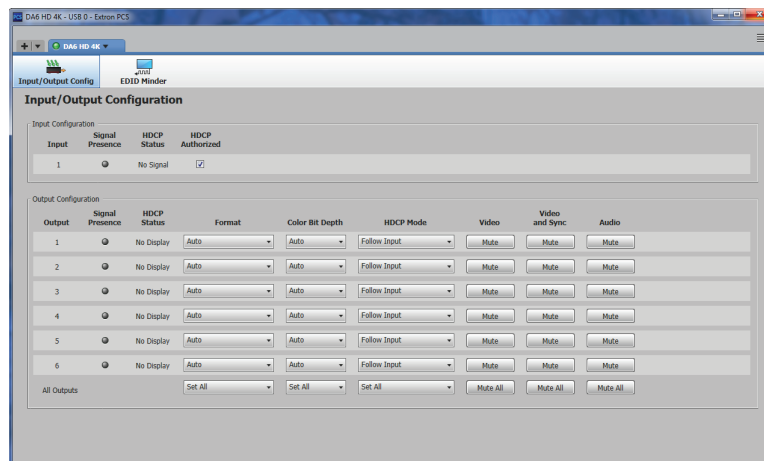

Figure 11. DA HD 4K Main Menu
6. Select **Input/Output Configuration** or **EDID Minder** to begin configuring the DA HD 4K (see figure 11).